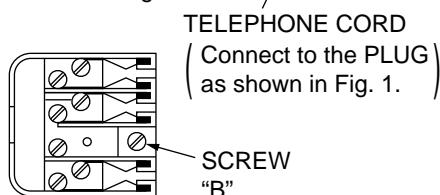

Fig. 3
3. Replace screw "B". (See Fig. 3.) Ensure that it screws completely into the socket recess. (If the screw is too long, increase the hole depth or replace the screw with one 5 mm shorter.)